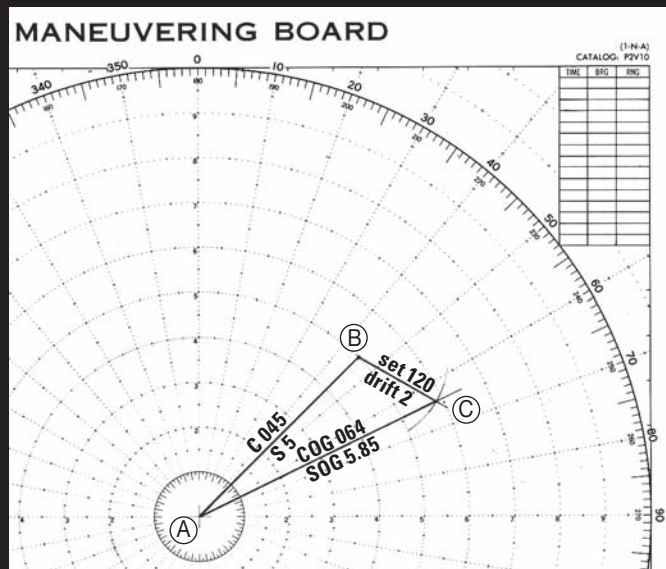

Figure 1
Situations where the set is neither dead ahead nor astern require a calculation of its effect. You can make this calculation graphically using a vector diagram. Vector diagrams model speed and direction, as shown in Figure 1. This diagram shows the effect of an offsetting current. Assume you are sailing from A toward B, steering a course of 045 degrees and sailing through the water at 5 knots. To plot the effect of a known current whose set is 120 degrees with a drift of 2 knots, add the current component (B-C) to the end of the course line. Adding the third side of the triangle (A-C) shows that the combined effect will be that the boat is sailing a course over the ground (COG) of 064 degrees at a speed over the ground (SOG) of 5.85 knots. Often you will not know the set and drift of the local current, but this information can be determined as shown in Figure 1. If point B is your dead reckoning (DR) position after sailing for an hour on a course of 045 degrees at a speed of 5 knots and point C is your actual position, connecting points B and C will give you your average set and drift for that hour.
In vector diagrams, such as Figure 1, speed is the length of the line. The direction it points is the course. Even if you are unfamiliar with vector diagrams, you have been using the concept whenever you navigated by dead reckoning on a nautical chart. The chart supplies direction by the compass rose, and distance (or in some cases speed) by the latitude scale.